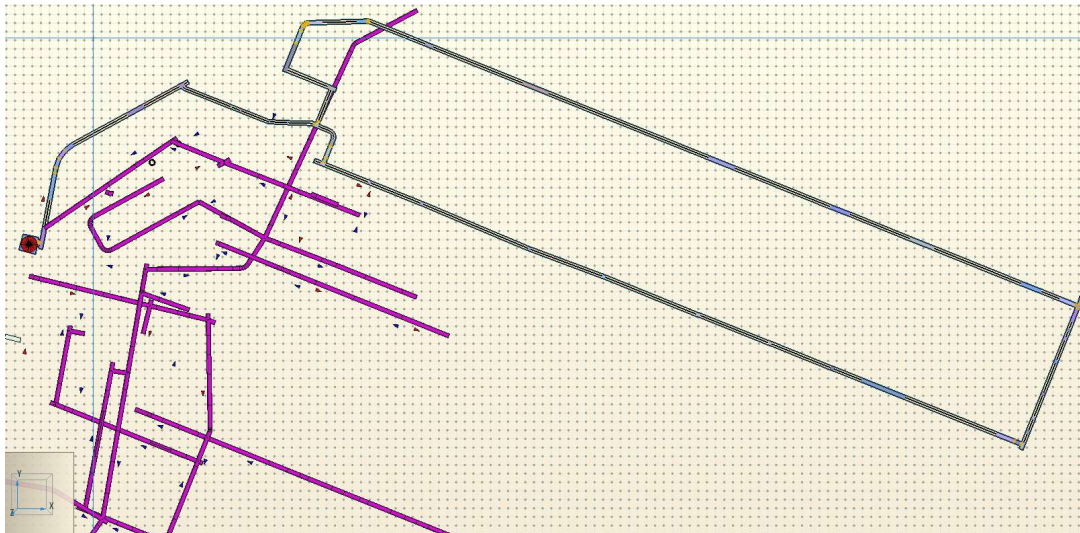

Figure 2 – 2D View of a Coal Mine Modelled in Pathfinder
- 2D View: This view is very similar to the 3D View, but it provides an additional snapping grid and an orthographic view of the model, as shown in *Figure 2*.